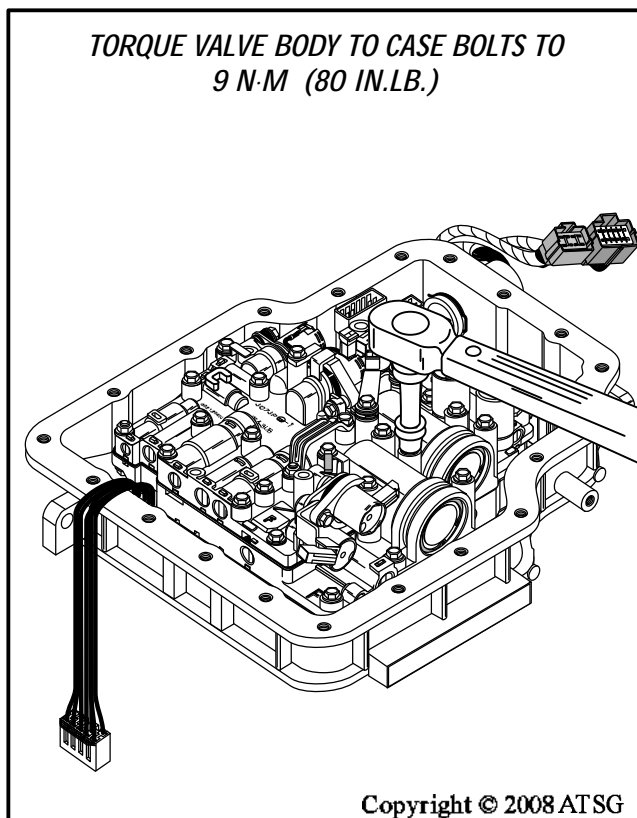

Figure 234
50. Now torque all silver valve body to case bolts to 9 N·m (80 in.lb.), as shown in Figure 234.